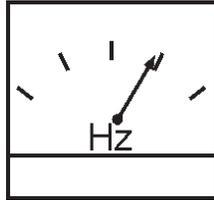

Figure 44. Frequency Meter (Hz)
9. The generator's frequency meter (Figure 44) displays the 60 cycle output frequency in **HERTZ**.